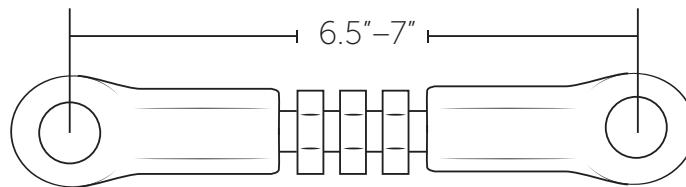

Figure 25
12. Set the Turnbuckle Linkage so that the ends are threaded on equally and about 6.5"-7" from center to center (fig. 25).